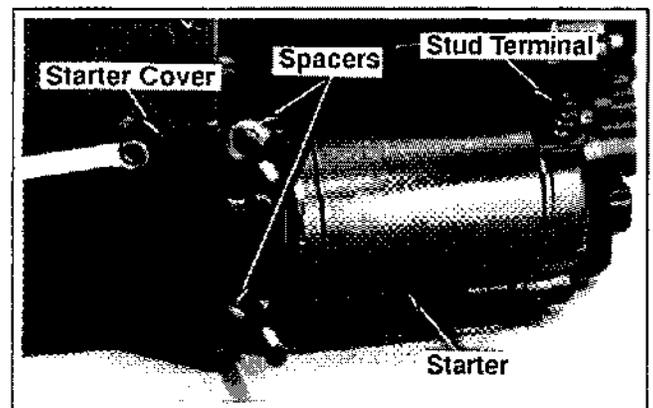

Figure 11-38. Installing Electric Starter.
1. Install the starter and spacers on the mounting studs. See Figure 11-38.